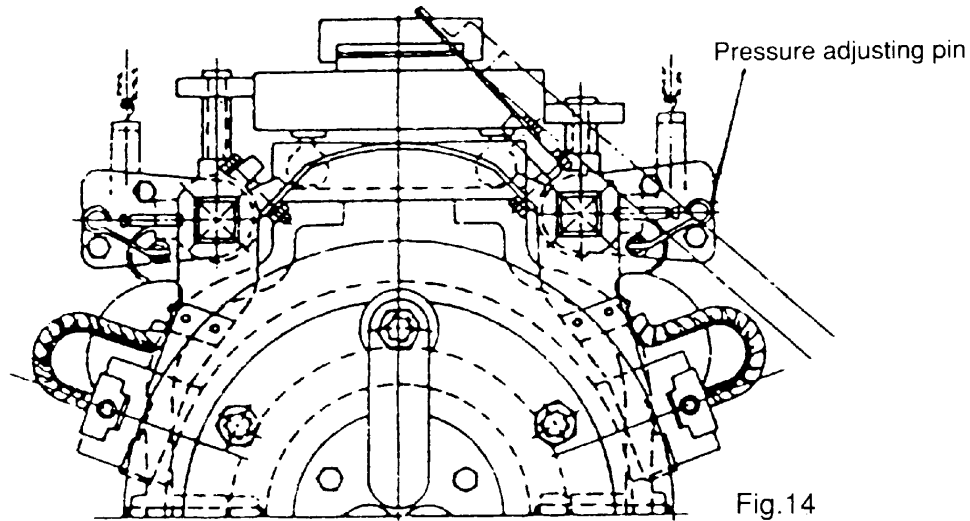

Fig.14
- ? The brush pressure may be reduced after use, so it is necessary to re-adjust. For adjustment, please turn adjusting screw, pressure adjusting pin or pressure adjusting plate as shown in Fig. 14 to obtain the correct tension (=0.23 x brush cross sectional area in cm2) ±10% kg.